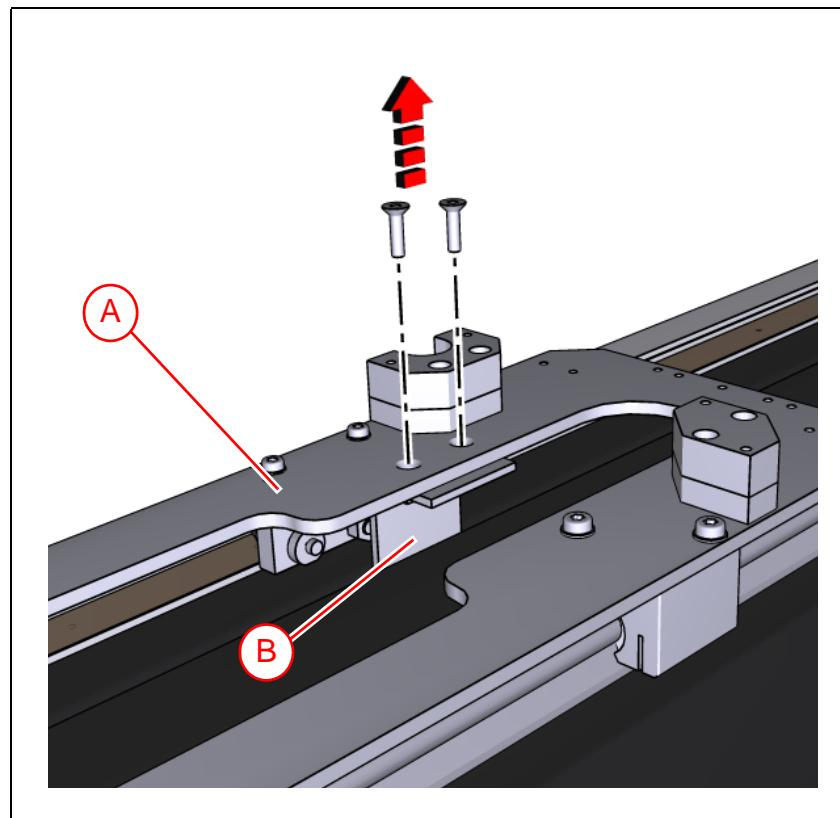

Figure 13-29. Loosening the belt fork.
2. Continue by dismantling the tray table ('A' in Figure 13-29) from the belt fork ('B').